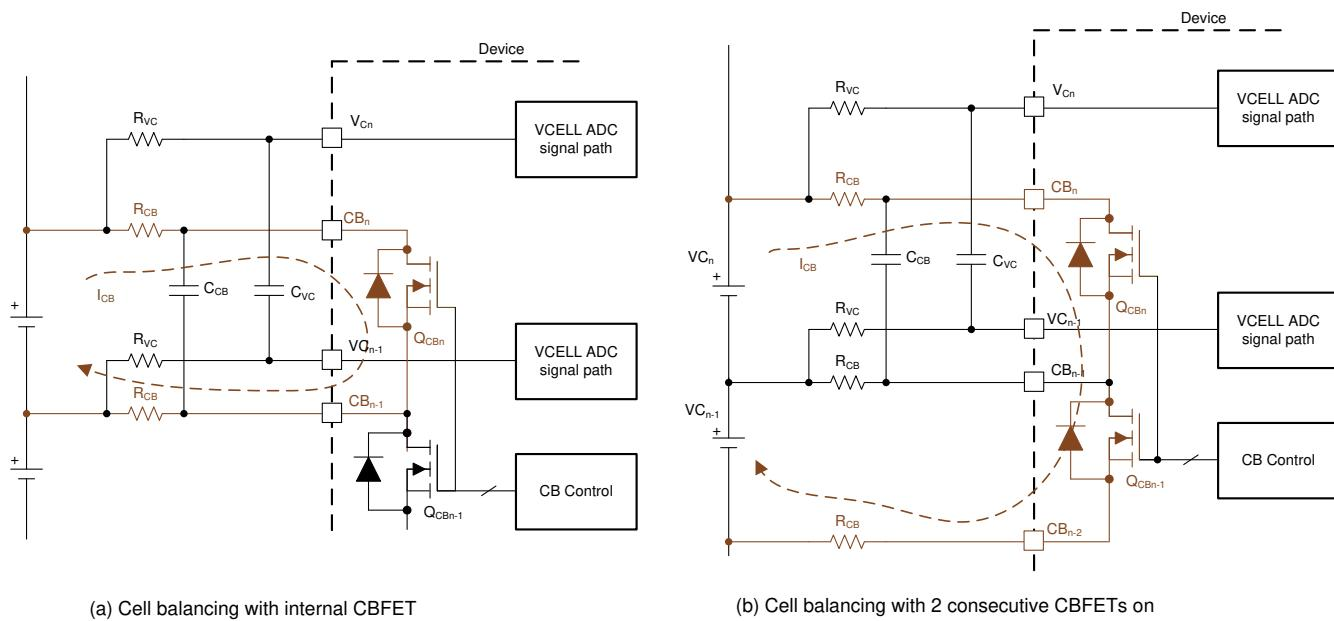

Figure 9-13. Internal Cell Balancing and the Flow of Balancing Current
- Balancing with no consecutive CBFET on (Figure 9-13 (a)): $I_{CB} = V_{Cell} / ((2 \times R_{CB}) + Rdson_{QCB})$
- Balancing with two consecutive CBFETs on (Figure 9-13 (b)): $I_{CB} = (\text{Sum of two } V_{CELL}) / ((2 \times R_{CB}) + Rdson_{QCBn} + Rdson_{(QCBn-1)})$
- Manual balancing control ($[AUTO_BAL] = 0$): With this method, the device will turn on the CBFETs that have non-zero balancing timer settings once $[BAL_GO] = 1$ is received. There is no odd and even channel switching during the cell balancing and the BAL_CTRL1[DUTY2:0] setting does not apply under this control. Host MCU can enable two consecutive CBFETs with this method and a maximum of eight CBFETs can be enabled. When two consecutive CBFETs are enabled with both channels connected to battery cells, the balancing current is significantly different compared to no adjacent CBFET being on (Figure 9-13). The DEV_CONF[NO_ADJ_CB] bit is provided to avoid inadvertent enabling of an adjacent CBFET for a system that is not intended to have an adjacent channel on for balancing. In this control method, the device is relying on the MCU to enable the proper channels. If the MCU sends $[BAL_GO] = 1$ but the CBFETs are enabled with an invalid condition, the device will not start balancing and will set BAL_STAT[INVALID_CBCONF] = 1. Invalid configurations are either: